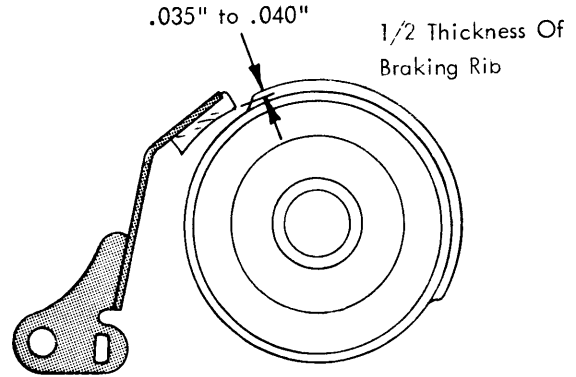

FIGURE 24. Shift Cam Brake Adjustment
4. **Shift Cam Brake** - The shift cam brake should be adjusted to have .035" to .040" bite on the braking rib of the cam (Fig. 24). That is approximately 1/2 the thickness of the rib.